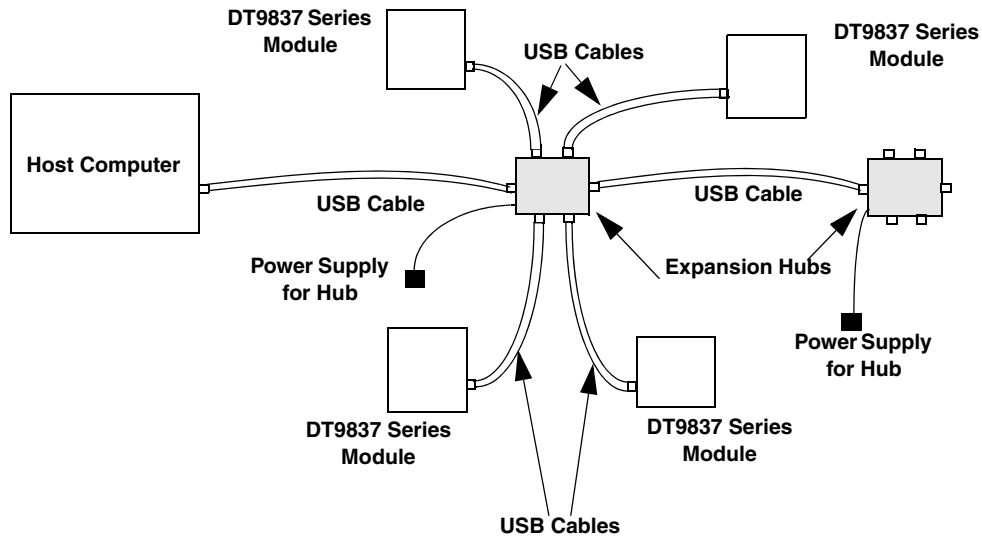

Figure 8: Attaching Multiple Modules Using Expansion Hubs
5. Repeat these steps until you have attached the number of expansion hubs and modules that you require. Refer to Figure 8.